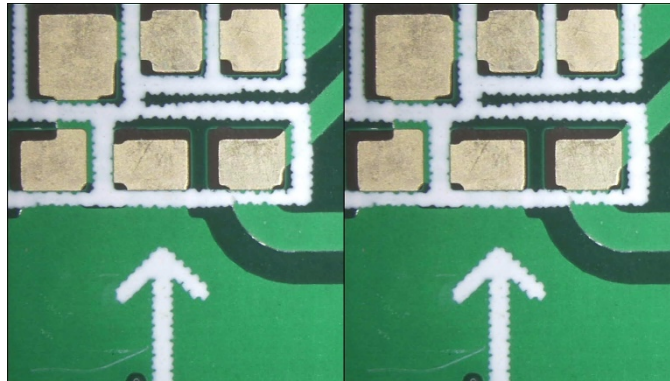

Fig 5-56 Right Side Compare Mode
- Right Side Comparison : Enable/Disable the Right Side Compare mode. The loaded image is on Right side. Left side image is live preview image. Below Fig 5-56 Transparency: 100%, Image Location: 100%, Offset Ratio: 0%, Image Ratio: 50%.